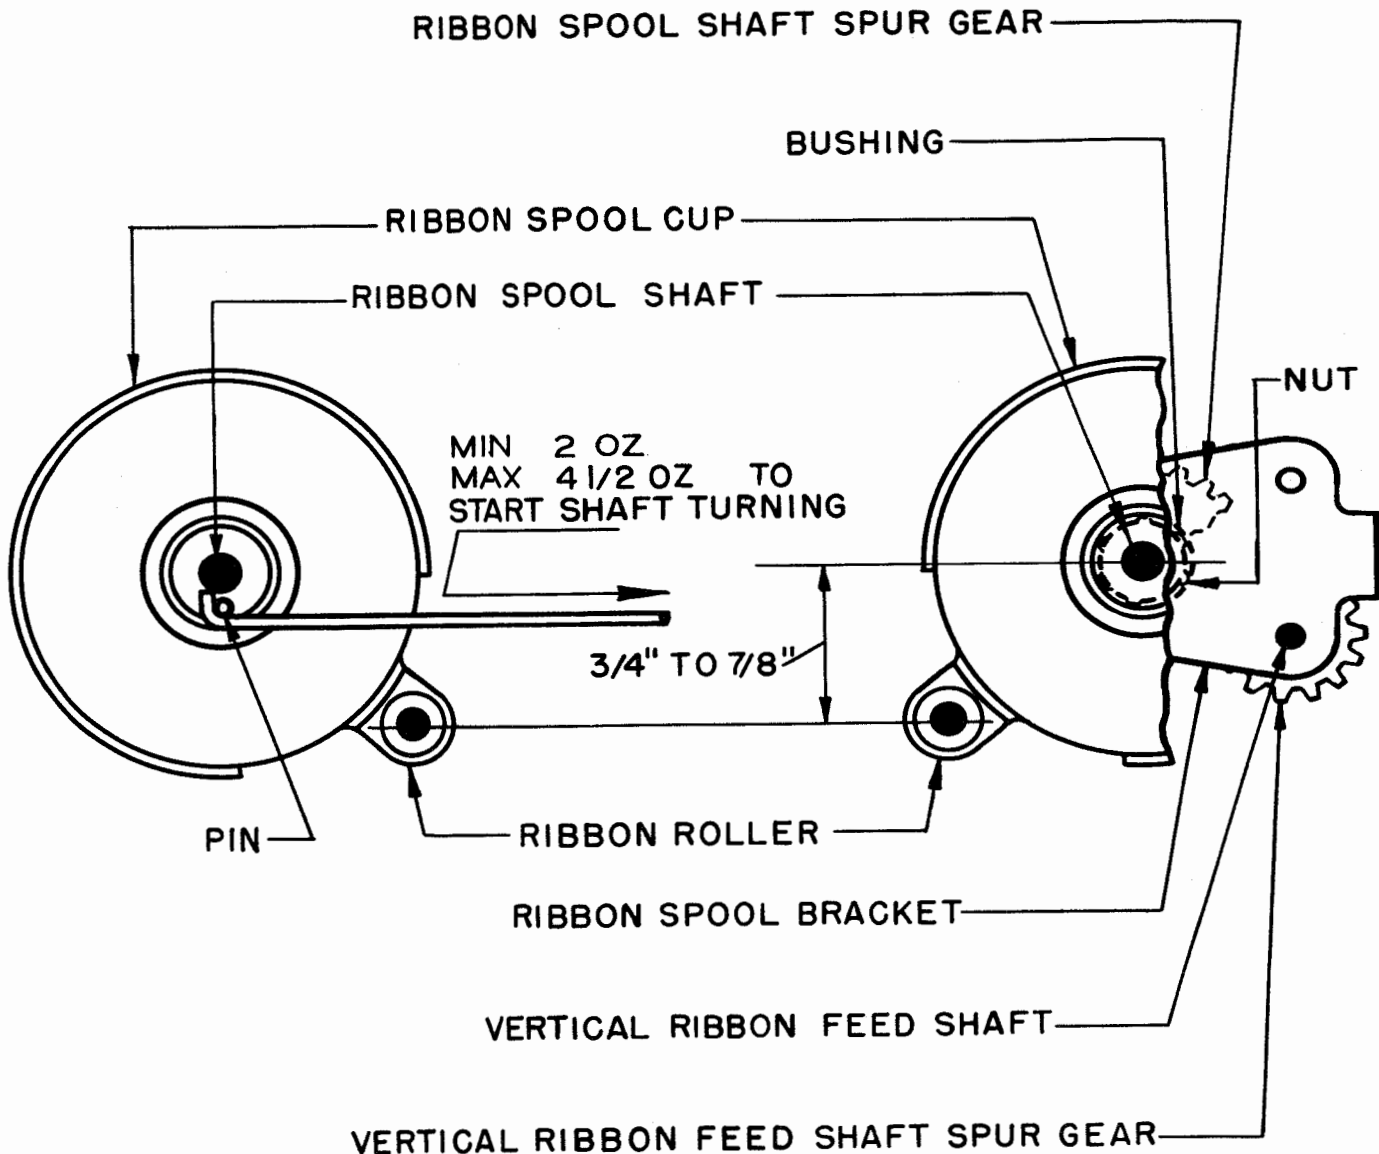

Figure 8
2.13 **Ribbon-spool Cups:** The ribbon-spool cups should be positioned so that (1) their ribbon roller-bearing pins are minimum $3/4$ inch, maximum $7/8$ inch, in front of a line through the ribbon-spool-shaft centers, and (2) there is no bind between the gears on the ribbon-spool shaft and the vertical ribbon-feed shaft. Gauge by eye and feel. See Figure 8.
2.14 **Vertical Ribbon-feed-shaft Springs** should exert a pressure of minimum 2 ounces, maximum $4-1/2$ ounces, when the associated horizontal and vertical ribbon-feed-shaft bevel gears are disengaged. See Figure 8.
2.19 Ribbon-spool Cups and Ribbon-reverse-arm Backstop (Applies only to units equipped with yield mechanism.) The centers of the ribbon rollers should be minimum 3/4 inch, maximum 7/8 inch in front of a line throughout the centers of the ribbon-spool shafts. With the ribbon-reverse arms held against their backstops, approximately 3/4 of the tooth on each ribbon reverse pawl should be in a position to be engaged by the ribbon-reverse bail. There should be no bind between the ribbon-spool-shaft spur gears and the vertical ribbon-feed-shaft spur gears at any point in their engagement. See Figures 8, 10, and 11.